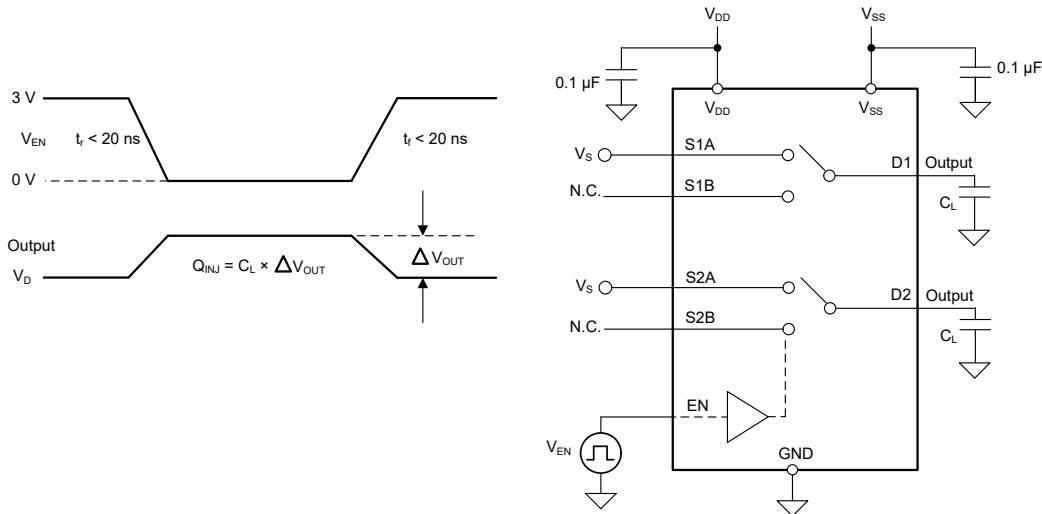

图 6-9. Charge-Injection Measurement Setup
The TMUX7236 has a transmission-gate topology. Any mismatch in capacitance between the NMOS and PMOS transistors results in a charge injected into the drain or source during the falling or rising edge of the gate signal. The amount of charge injected into the source or drain of the device is known as charge injection, and is denoted by the symbol  $Q_{INJ}$ . 图 6-9 shows the setup used to measure charge injection from source (Sx) to drain (D).